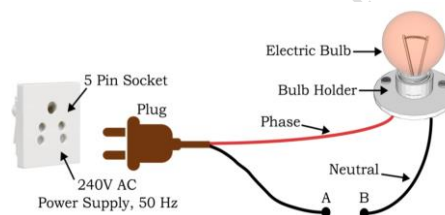

Fig. 2.14 Electric Plug is connected to the AC socket
Step 7. Insert the plug in the socket. Figure 2.14 illustrate that the electric plug is connected to the socket.